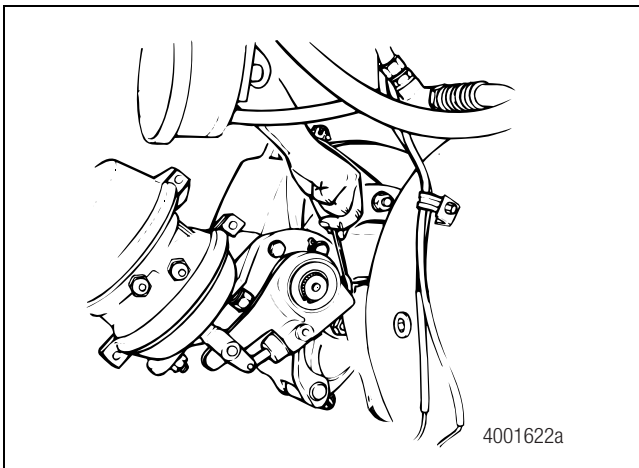

Figure 10.3
9. Use a wrench to turn the manual adjusting nut on the slack adjuster until the brake piston is completely retracted. Figure 10.3.